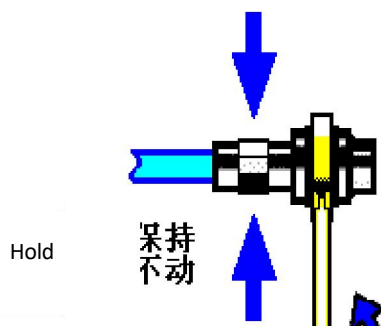

Figure 3.6 Wrench application diagram
Step 3. As shown in Figure 3.6, tighten the connectors with a torque wrench to complete the connection. Pay attention that the torque wrench should not exceed the initial folding point. Use an auxiliary wrench to prevent the connector from rotating.